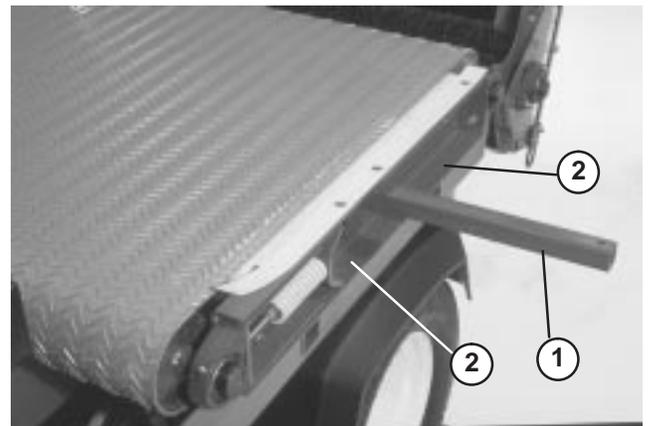

Figure 30
- Remove (2) capscrews, washers and nut, on left side of machine, securing slider bed to frame (Fig. 30).
- Insert a lift bar into hole on left side of machine and raise lift bar to tip slider bed (Fig. 30).